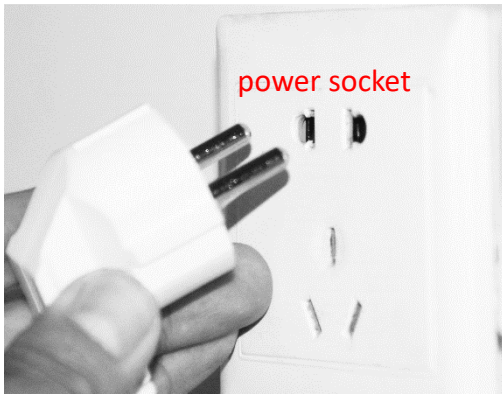
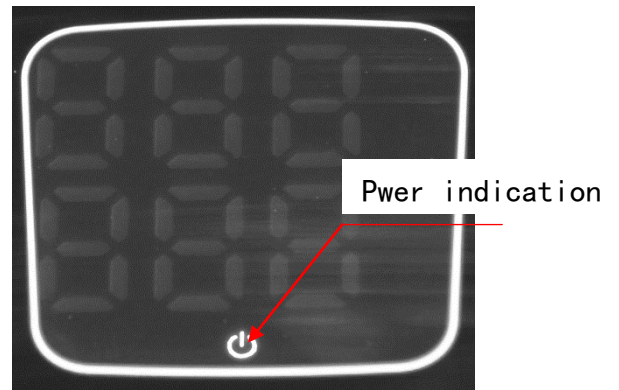

Figure 10
Figure 11
① Power on
I. The device is 220 V 110V 1000W. Choose the right power supply first, insert the power line into the "power socket" and give the device electricity, as in Figure 10, Figure 11.